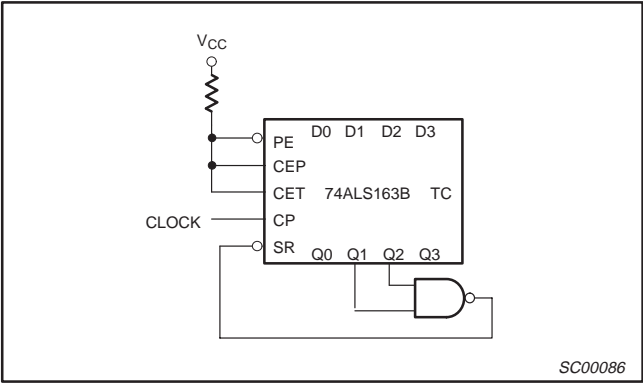

Figure 1. Maximum Count Modifying Scheme
For the 74ALS163B the clear function is synchronous. A Low level at the synchronous reset (\overline{SR}) input sets all four outputs of the flip-flops (Q0 – Q3) to Low levels after the next positive-going transition on the clock (CP) input (provided that the setup and hold time requirements for \overline{SR} are met). This action occurs regardless of the levels at CP, \overline{PE} , CET and CEP inputs. The synchronous reset feature enables the designer to modify the maximum count with only one external NAND gate (see Figure 1).